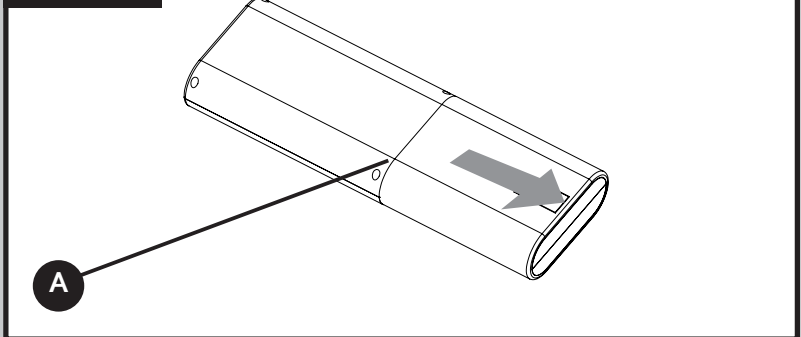

Fig.3
Fix the Electronic Control Unit(s) securely into position with four screws (19). Note: if the provided screws are not of suitable length or type for the desired location/material please substitute these as appropriate. For an AWD installation connect the link cable between control box ports E (Fig.3).